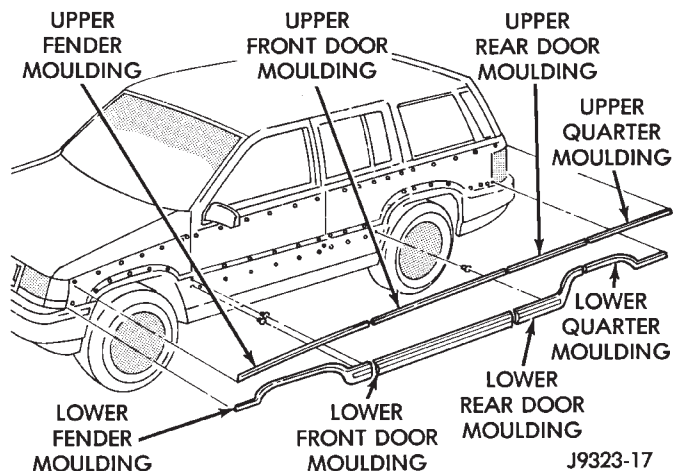
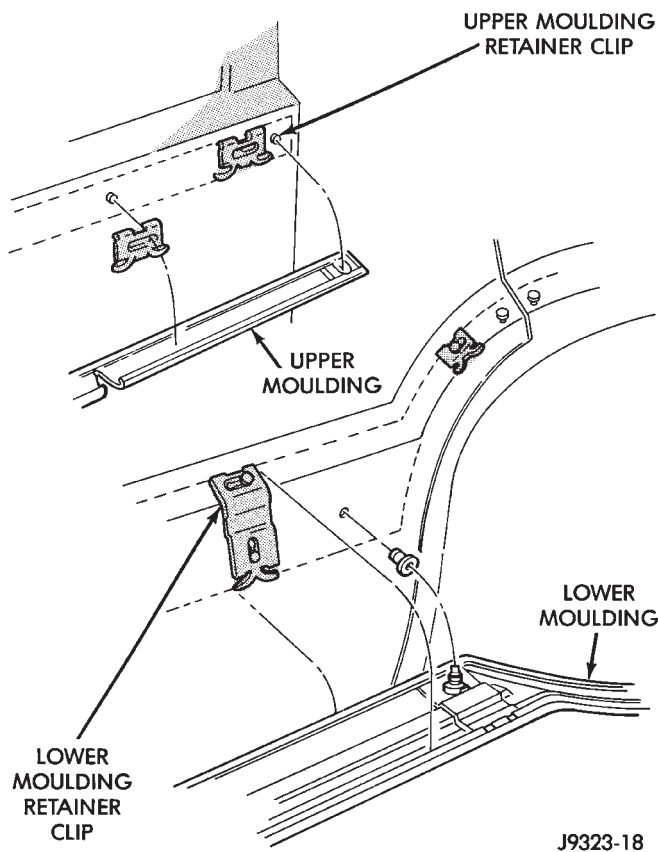

Fig. 26 Body Panel Woodgrain Moldings
Fig. 28 Woodgrain Molding Attaching Methods
- (1) Push down on upper molding and carefully pry molding off along bottom (Fig.26 and 27).
- (2) Pull up on lower molding and carefully pry along top of molding.
- (3) Align molding with retainers and with clips in panel (Fig. 28). Press molding into place on panel.
Body stripes are durable, weather-resistant tape stripes with pressure-sensitive backing (Fig. 26). The tape stripe is protected by a carrier until installed on a body panel. Carrier also is an installation alignment aid.